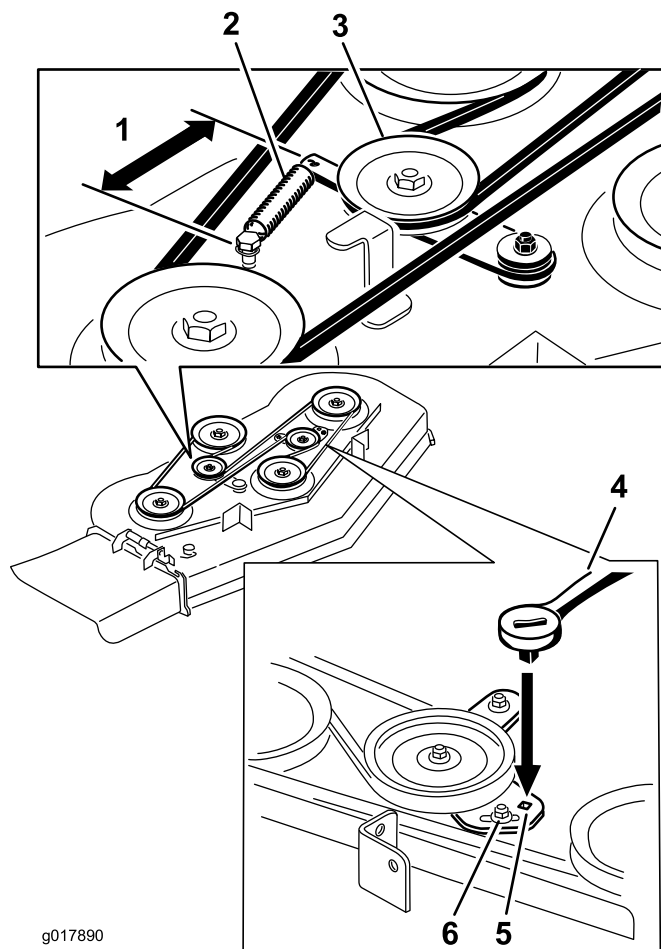

Figure 73
5. Remove the worn mower belt (Figure 73).
6. Install the new mower belt around the deck pulleys and clutch pulley (Figure 73).
7. Using a ratchet in the idler arm, tighten the idler pulley until the spring is stretched 6-1/2 inches (165 mm) from hook to hook (Figure 73).